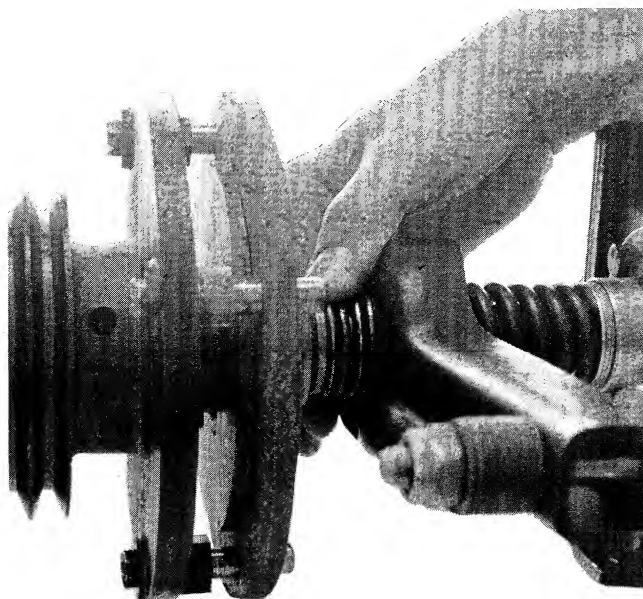

FIGURE 19. CLUTCH SPRING
Depress the clutch pedal with your left hand and try to rotate the small spring located between the pressure plate and the throwout yoke with your right hand. See Figure 19. You should be able to rotate this spring by hand. If it does not repeat steps 2 and 3.
5. Rust on the center shaft of the clutch can cause the spring guides under the small spring to bind. See Figure 19. Remove the rust from the shaft and lubricate with a thin film of oil.